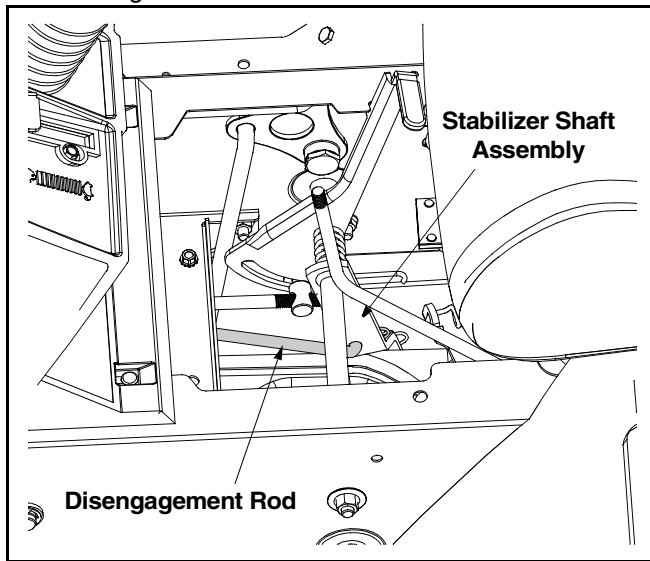

Figure 16
- Remove the shift cover panel and locate the deck disengagement rod. See Figure 16.
- Remove the hairpin clip which secures the disengagement rod to the stabilizer shaft assembly. See Figure 16.